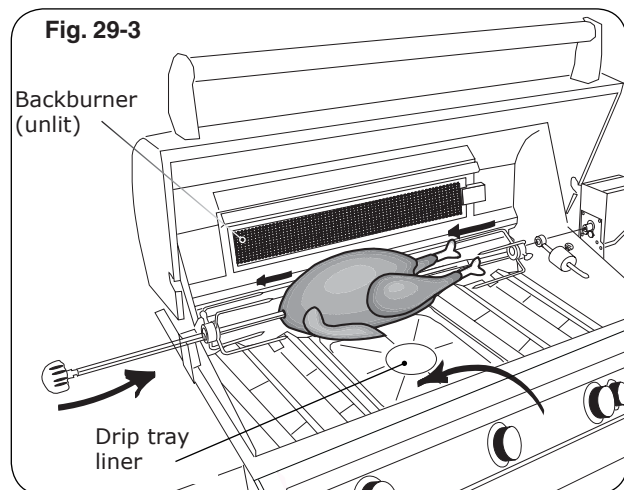

Fig. 29-3
4. Slide the left meat holder onto the rod (and tighten), the meat onto the rod and into the holder, followed by the right meat holder onto the rod and into the meat as shown in Fig. 29-3. Tighten the right meat holder. Be sure the meat is centered and balanced as well as possible.
9. To keep drippings off the burners and simplify cleanup, place Fire Magic® drip tray liners under the meat, if desired (Fig. 29-3).